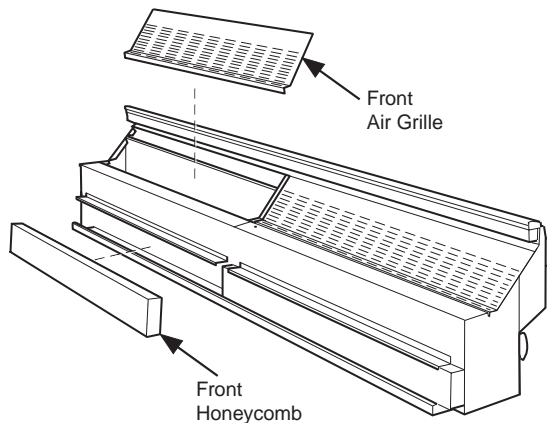

Figure 1. Remove Air Grille and Honeycomb
- 1 Remove front air grille and honeycomb from the appropriate end as shown in Figure 1.